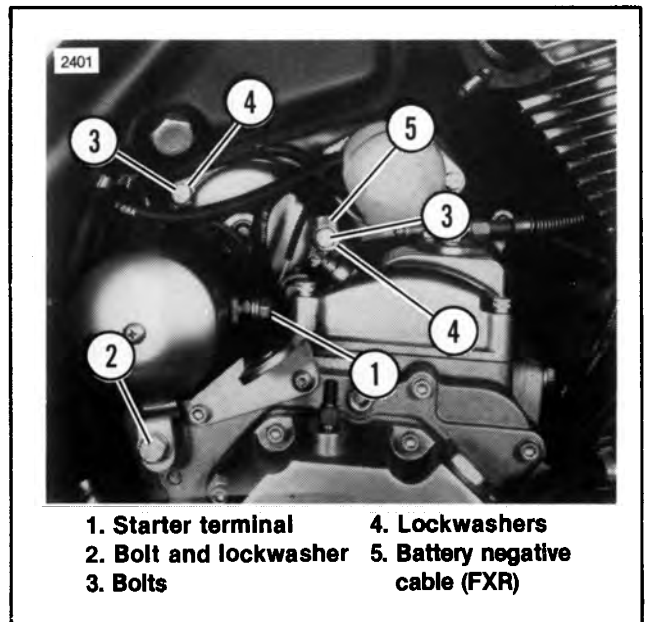

Figure 5-2. Removing the Starter
REMOVAL (Figure 5-2)
2. See Figure 5-2. Install the battery negative cable (5) on the left mounting stud on FLT models or the right side on FXR models. Fasten the starter with the original lockwashers (4) and nuts (3) or bolts. Tighten nuts or bolts to 10-12 ft-lbs torque.
5. See Figure 5-2. Install bolt (2) that fastens mounting bracket to transmission side door.